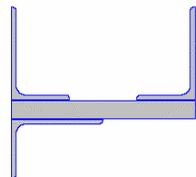

Fig. 66 *Position of the third angle after performing rotation by 270°*
- as a result, the angle will be positioned as shown in Fig. 66